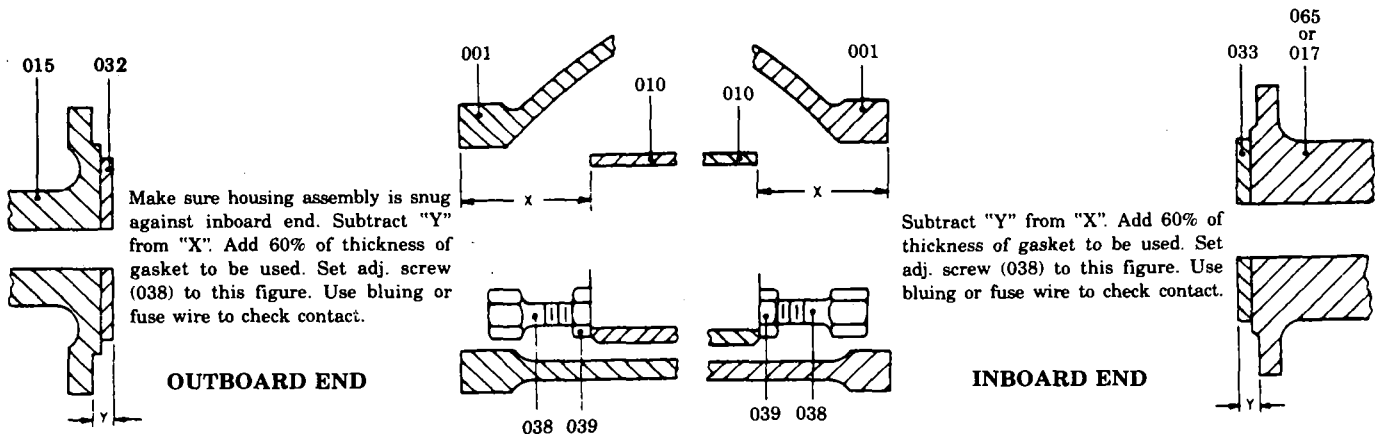

FIGURE 7. Setting of Housing Adjusting Screws
STEP 4. All Pumps: Coat bushing (025) and spacer (044) with oil and slide bushing (025) and spacer (044) in outboard cover (015). Align block (032) with spring pins (034 and 035) in bushing (025) and outboard cover (015) and install block (033) on cover (015). Install gasket (008) and cover (031) on outboard cover (015) using bolts (004). Torque bolts (004) to 28 lbs ft. (± 2 lbs. ft.).
STEP 5. All Pumps: Adjust screws (038) on inboard and outboard ends of housings as outlined in Figure 7. Correct adjustment should be verified for inboard end before adjusting screws on outboard end. Place bluing or fuse wire on heads of capscrews (038). Install inboard cover (assembled in Step 3) as follows:
All Pumps: Install assembled outboard cover (015) (assembled in step 4) and gasket (007) to case (001) using bolts (003). Torque bolts (003) to 85 lbs ft. (± 5 lbs. ft.). Remove inboard cover and verify capscrew (038) contact on block (033). Adjust capscrews (038) as necessary. Ensure jam nuts (039) are locked tight. Install inboard cover as outlined above per Figure Numbers. Torque bolts (002) to 85 lbs ft. (± 5 lbs. ft.) on Figures 8, 13 and 14. Torque bolts (003) to 85 lbs ft. (± 5 lbs. ft.) on Figures 9, 10, 11 and 12. With proper adjustment verified for inboard end capscrews (038), perform procedure outlined for adjusting screws on outboard end, Figure 7. Remove outboard cover (015) and check for contact between block (032) and screws (038). Adjust capscrews (038) as necessary. Ensure jam nuts (039) are locked tight. Outboard cover (015) will be re-installed in Step 8. **CAUTION:** Do not exceed 0.003" pressure on capscrews (038) to avoid distortion of rotor housing bores.